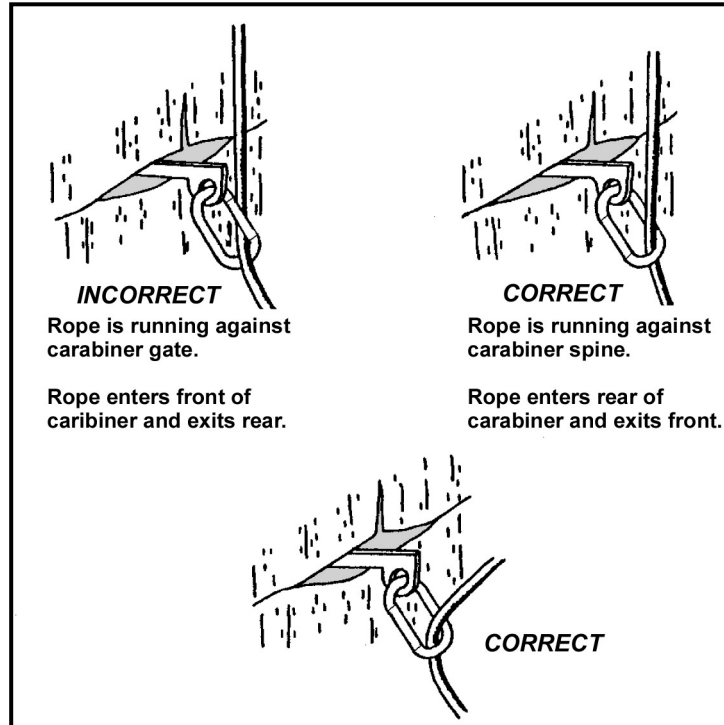

Figure 6-29. Clipping on to protection.
(2) **Correct Clipping Technique.** Once an anchor is placed, the climber "clips" the rope into the carabiner (Figure 6-29, page 6-50). As a carabiner hangs from the protection, the rope can be routed through the carabiner in two possible ways. One way will allow the rope to run smoothly as the climber moves past the placement; the other way will often create a dangerous situation in which the rope could become "unclipped" from the carabiner if the leader were to fall on this piece of protection. In addition, a